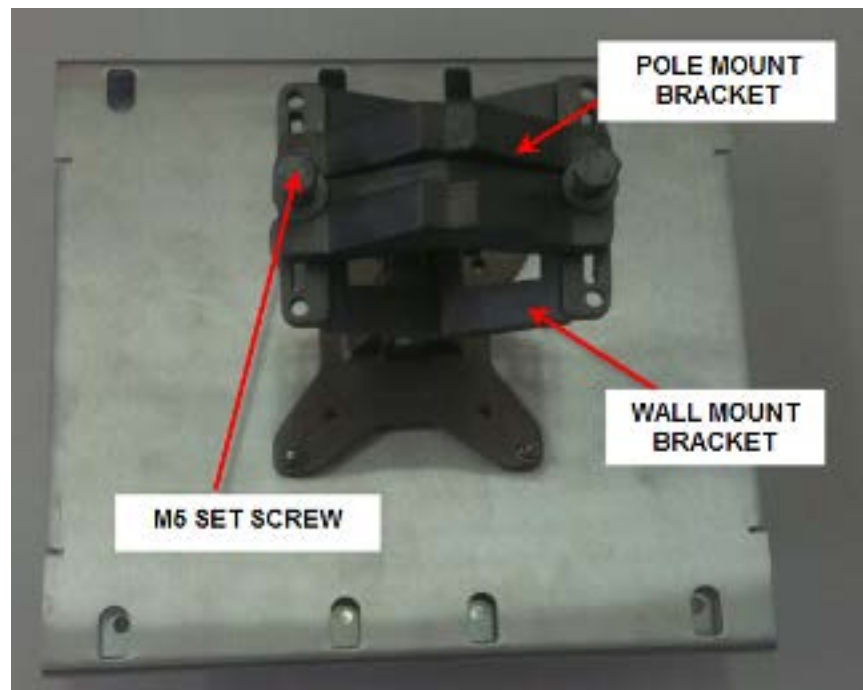

Figure 25: Pole Mount Bracket Assembly
9. For pole mounting, attach the pole mounting bracket to the wall mounting bracket as shown in Figure 25.
10. Secure the pole mounting bracket with Flat Washer (M5), Spring Washer (M5), and Set Screw (M5) as shown in Figure 25.